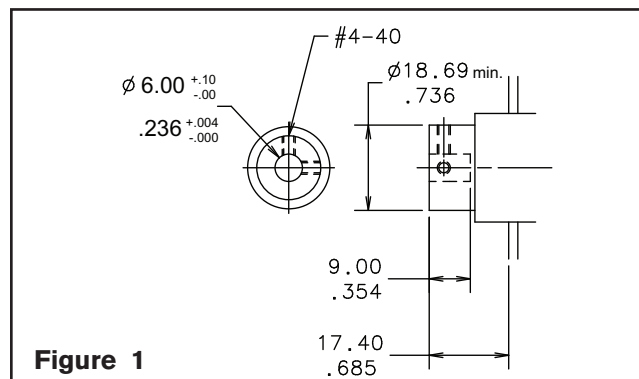

Figure 1
1. Verify that the dancer arm pivot shaft's end complies with the dimensions given (See Figure 1).